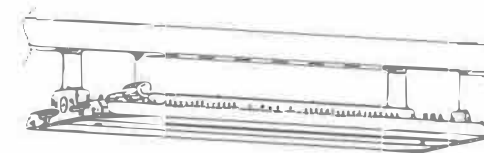
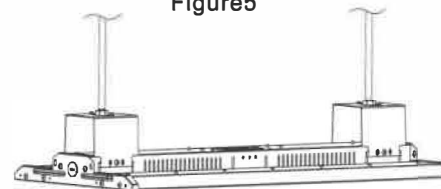

Figure6
Figure7
2. Mount the bolt on the rail or ceiling, and mount the fixture bracket on the bolt (Figure 6); and then install the fixture. (Figure 7).